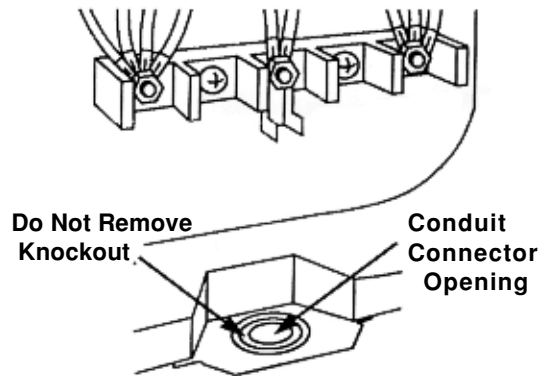

Figure 2-7
4. Attach a U.L.-listed conduit connector to the knockout opening, but do not remove the knockout (see Figure 2-7).